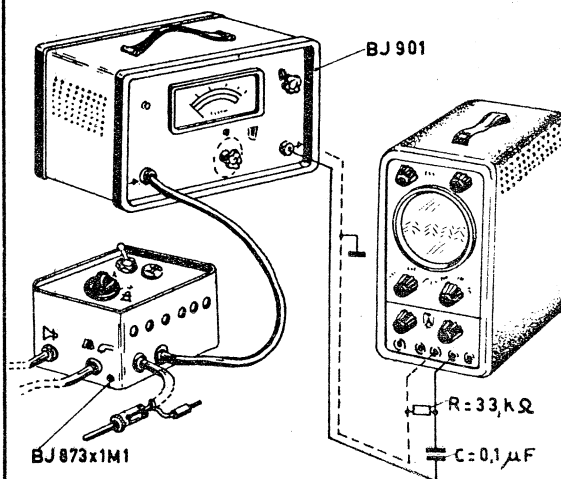

Fig. 8
6.2 Check the variations of amplitude at the oscilloscope when playing back. In order to cut out the interfering frequencies due to induction of the mains on the sound head, insert between the output of the projector and the input of the oscilloscope a high-pass filter the dip frequency of which has been set to  $f_0 = 500$  Hz. See fig. 8.